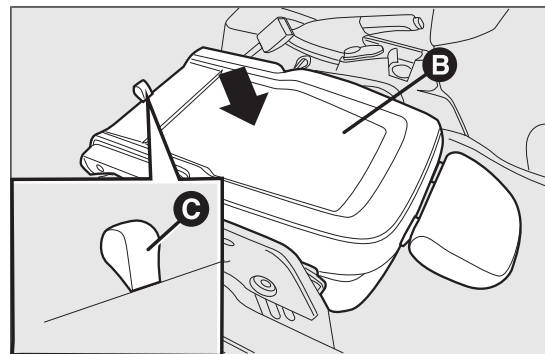

fig. 19
- ☐ then push the backrest B fig. 19 down: the seat is now completely folded over on itself into the "table" position;
- ☐ pull flap C fig. 19 and push the backrest down further: the seat is now completely folded away.
- ❑ take tab C fig. 19 and lift the backrest up;